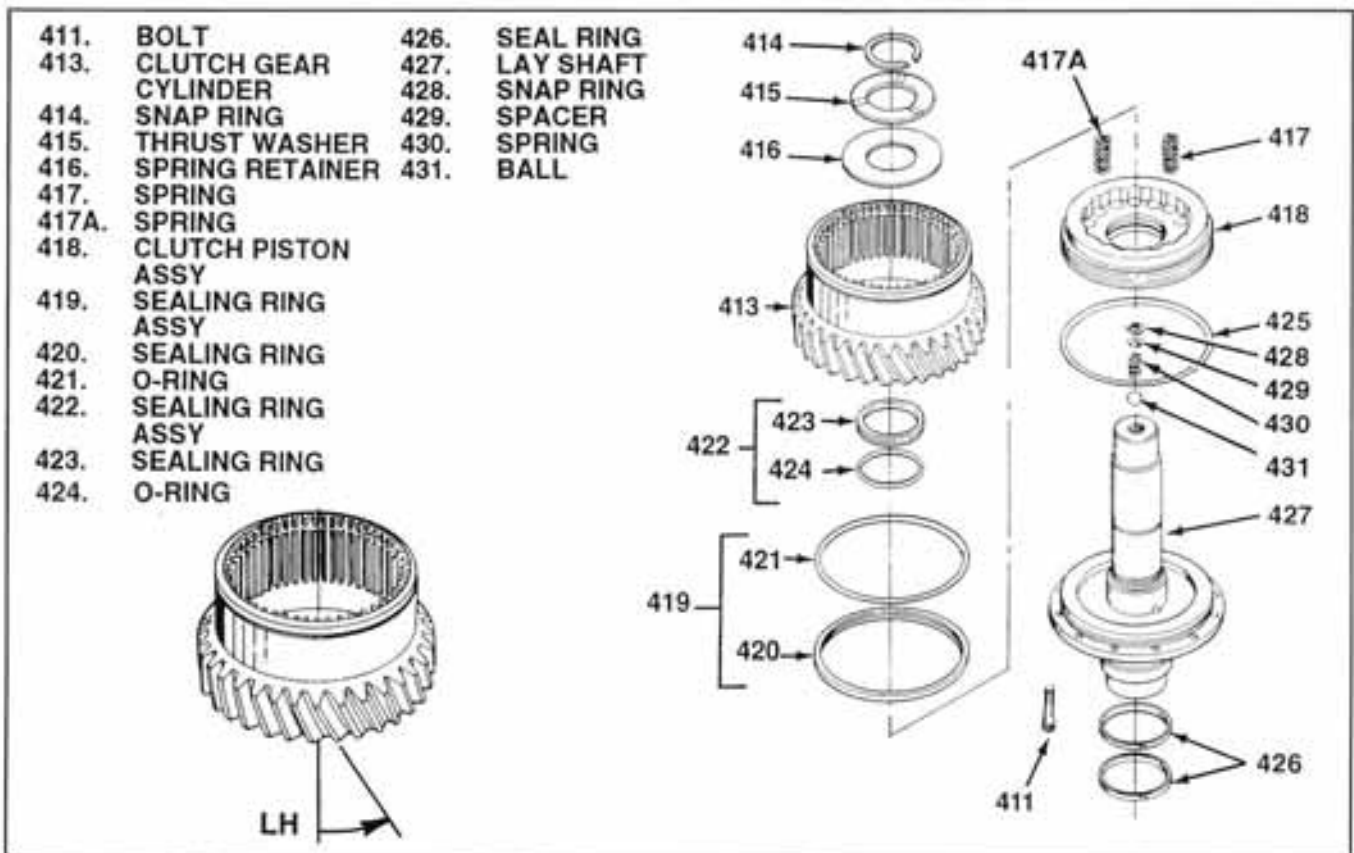

Figure 5-1. Lay Clutch Cylinder and Piston
5-5. ASSEMBLY OF CLUTCH PISTON AND CYLINDER Assemble lay clutch piston and cylinder as follows (see figure 5-1):
9. The helical on the lay clutch gear must be left handed. That means the teeth must be inclined to the left when viewed from the face of the gear (see figure 5-1). If the incorrect helical (input clutch) gear is installed there may be resulting damage to the lay shaft pump side bearing.
10. Using Guide pins, install clutch gear cylinder (413) over clutch piston assembly (418) and onto lay shaft (427). Install twelve bolts (411). Torque bolts to 16-18 lb-ft (22-25 Nm).